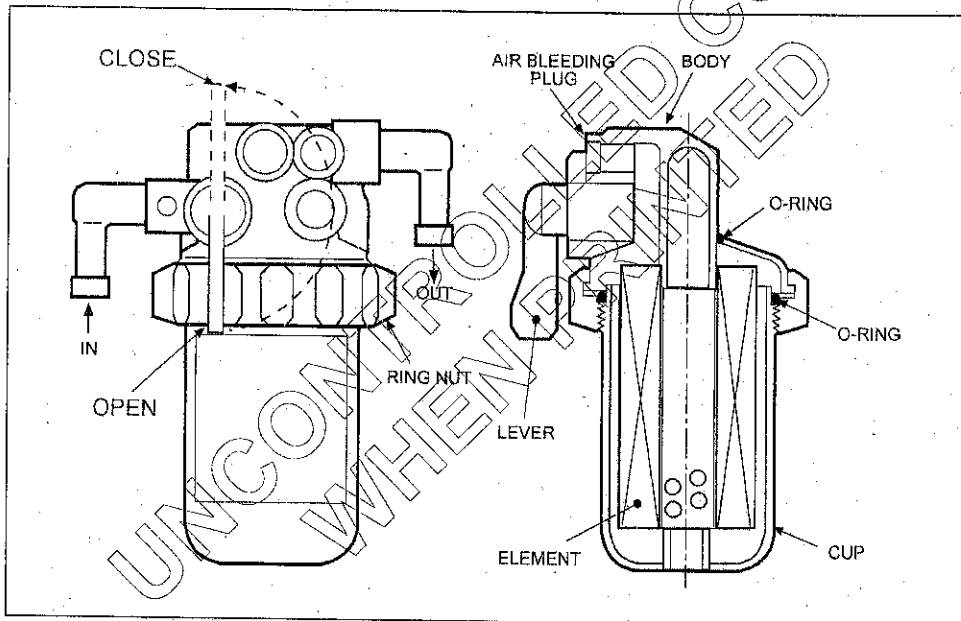

Fig 19 Draining water from the fuel
- (1) Turn the fuel filter lever just above (close) until it stops, to cut off the fuel. (See Fig 19).
- (2) Loosen the ring nut, remove the cup together with the element, and drain the fuel.
- (3) Clean the cup, install the element and tighten to the filter body with the ring nut.
- (4) Turn the fuel filter lever just below (open) until it stops, to conduct air bleeding for the fuel.